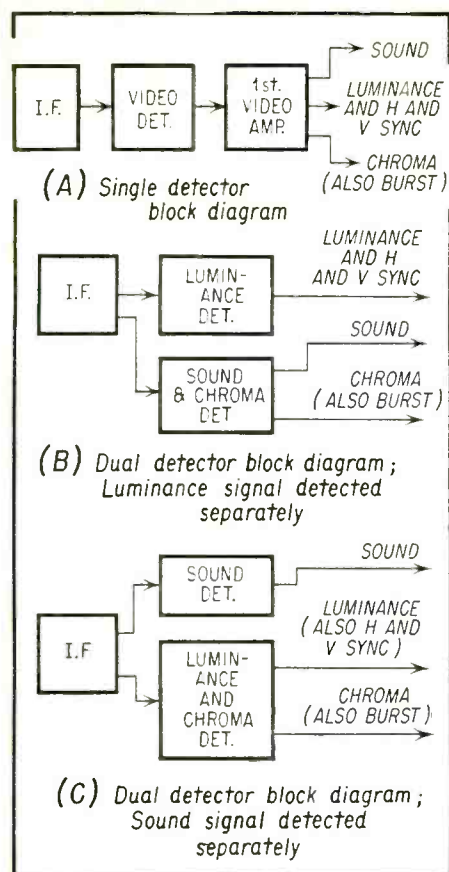

Fig. 1—Block diagrams of various types of color detector circuits.
Three signal takeoff systems are employed for extracting the individual signals listed above. These systems are shown in rather simple block diagram form in Fig. 1 and were introduced to the reader originally at the beginning of this chapter (see *May Service Dealer & Electronic Servicing* Pg. 16). Referring to Fig. 1:
Figure 1 (A) shows a block diagram of a Single Video Detector type where the entire composite video *if* signal is demodulated in a single detector. The output of this detector feeds the first video amplifier tube following which the various signals are processed in succeeding circuits.
Figure 1 (B) shows a block diagram of a Dual Detector type where the luminance signal is demodulated in one detector and the combined sound and chroma signals are demodulated in another detector.
Figure 1 (C) shows a block diagram of a Dual Detector type where the combined luminance and chroma signals are demodulated in one detector, and the sound signal in another detector.
It will be observed, from a study of Fig. 1, that in all cases the color burst signal is fed along with the chroma signal following detection. In subsequent circuits these two signals are separated from each other. It will also be observed that following detection, the sync signal which contains the hori-